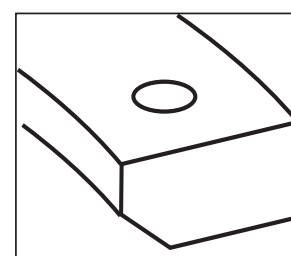

Figure 2
3. Second compression ring has a darker, charcoal gray finish and may have slight bevel along inner surface, or a hook-like relief machined on the bottom of the outer diameter. **See Figures 2 and 3.** This ring may have a dot or letter on the top side. Install in second or middle groove with dot or letter up. Bevel on the inner surface or groove on outer diameter will face down.
mark on other side. **See Figure 2.** Some second rings may have a hook shaped groove machined around the bottom of the the outer diameter. If two cast iron compression rings are supplied in a set, check to see if one has mark and bevel or hook shaped groove. These rings always go in second groove with marking up if present and bevel or groove facing down.
- f. If ring has dot or letter and inside diameter bevel, dot or letter goes to top of piston. **See Figure 2 and 3.**